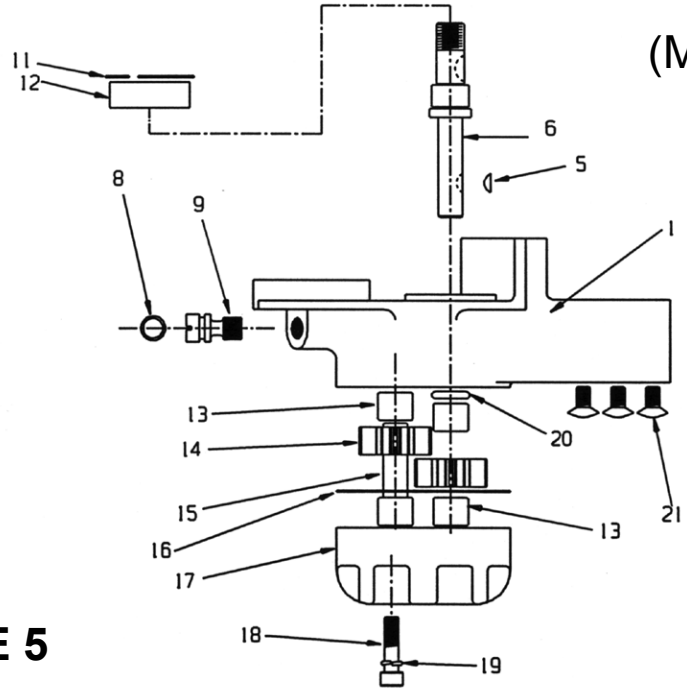

FIGURE 5
See Fig. 5 for motor disassembly. Remove 8 screws (18) and lift motor cap (17) off. Remove motor gears (14), gasket (16) and idler shaft (15). Bearings (12) and (13) should not need to be removed unless extreme wear has occurred. Bearing replacement would be a factory function only.